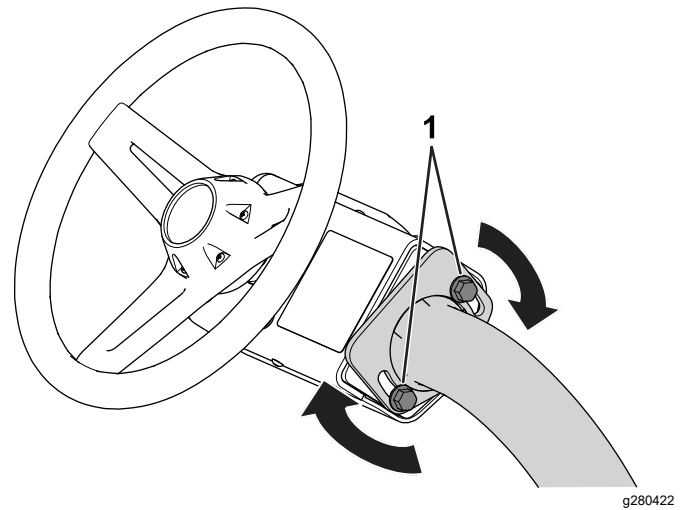

Figure 28
3. Tighten the bolts (Figure 28) to secure the steering-wheel assembly in your adjusted position.
1. Loosen the bolts (Figure 28) that secure the steering-wheel assembly to the steering arm.